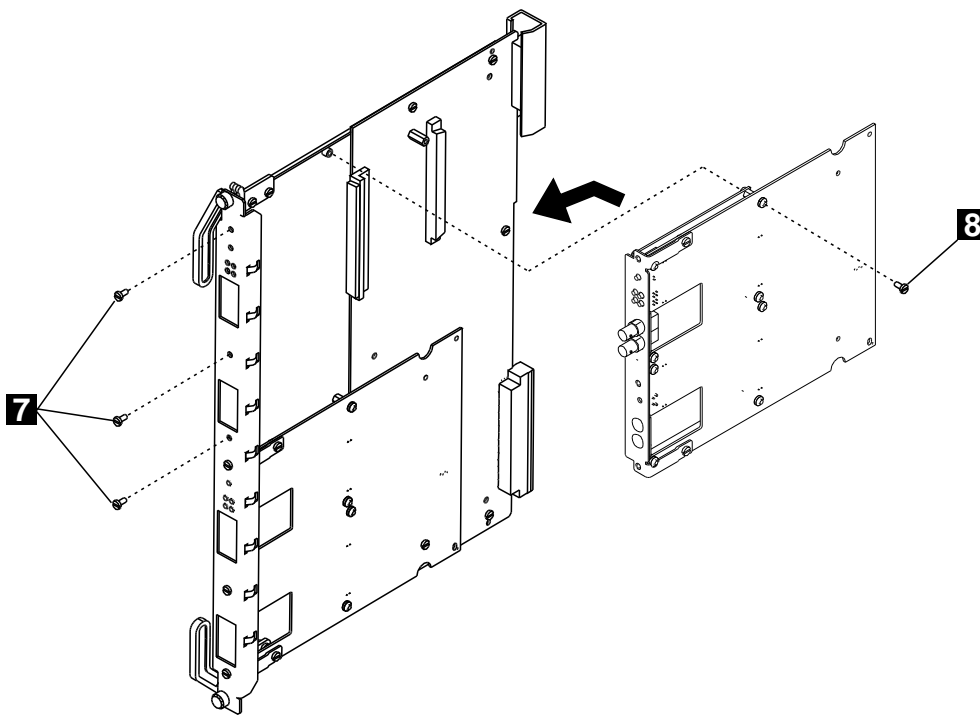

Figure 23. Reattaching the Motherboard
- **8** Reattach the motherboard to the module using the four screws ( **7** and **8** in Figure 23) that originally held the motherboard.
- \_\_\_ **3** Unscrew and remove the four screws that attach the motherboard to the module ( **7** and **8** in Figure 23 on page 84). Gently pull the motherboard away from the module until the motherboard connectors are detached.